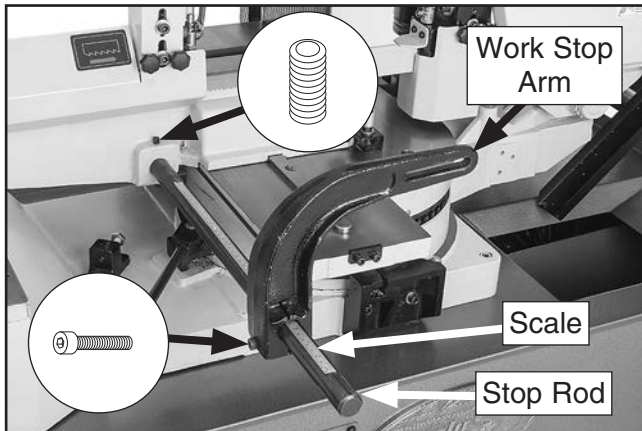

Figure 14. Work stop arm attached to stop rod.
2. Slide work stop rod into hole in vise base so scale faces up and rod is flush with back of vise bed casting (see **Figures 14–15**), then tighten front and rear set screws.